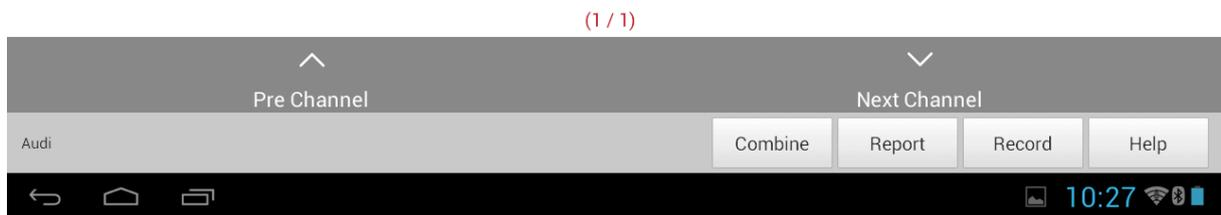
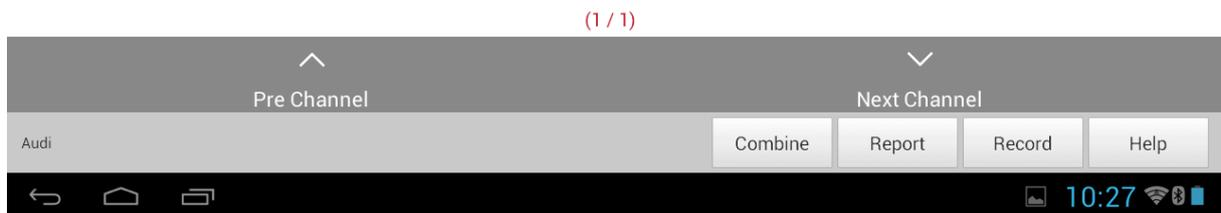
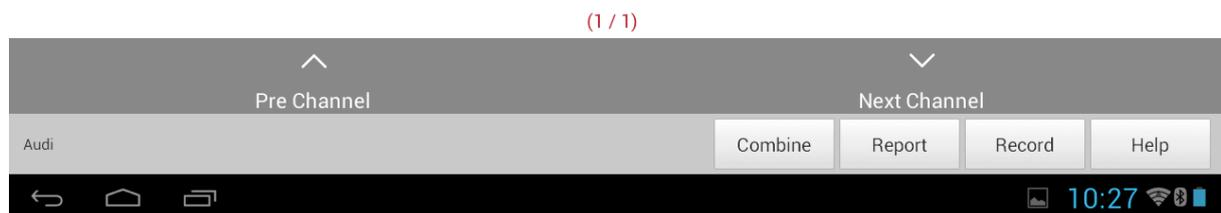
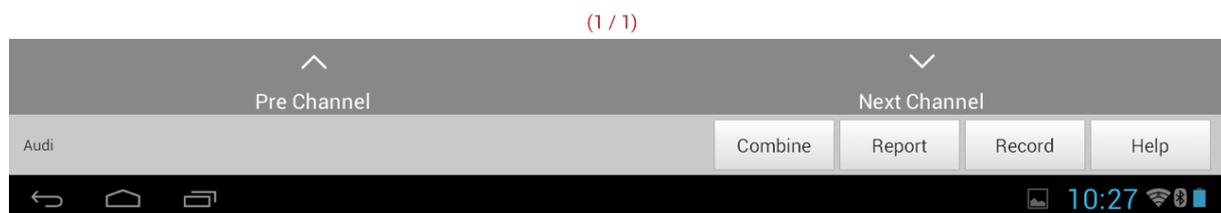

Figure 2 FL tire status
Figure 3 FR tire status
Figure 4 RL tire status
Figure 5 RR tire status
5) To locate the faulty tire pressure sensor, read data streams for the FL, FR, RL, and RR tire pressure sensors. See Figure 2, Figure 3, Figure 4, and Figure 5.